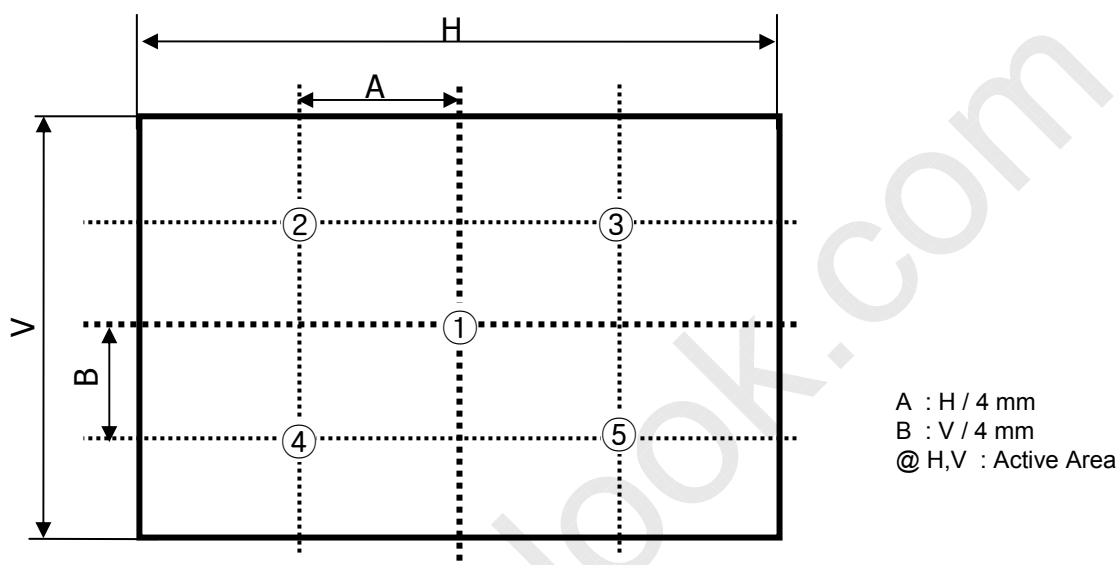

FIG. 2 5 Points for Luminance Measure
n = the Position number(1, 2, 3, 4, 5). For more information, see FIG. 2.
2. Surface luminance are determined after the unit has been 'ON' and 60 minutes after lighting the backlight in a dark environment at 25±2°C. Surface luminance is the luminance value at center 1-point across the LCD surface 50cm from the surface with all pixels displaying white. For more information see the FIG. 2.
For more information, see the FIG. 2.